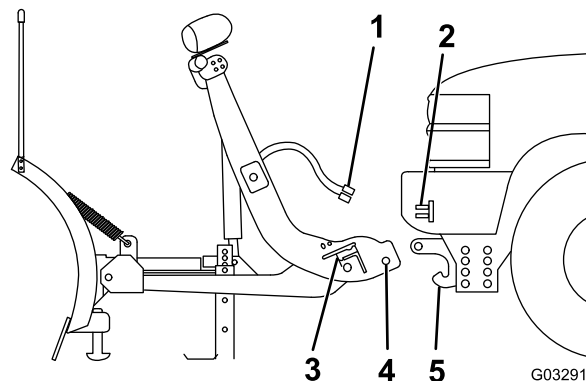

Figure 25
2. Line up the vehicle with the snowplow and slowly drive forward until the lower pin contacts the push-beam pin receiver (Figure 25).
4. Remove the electrical-plug dust-covers and connect the plow wire harness to the vehicle wire harness (Figure 25).